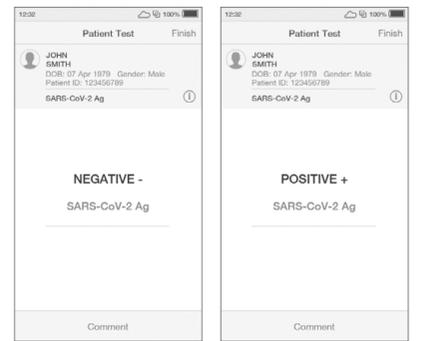

Fig 1: Negative result for SARS-CoV-2 Ag Fig 2: Positive result for SARS-CoV-2 Ag
4. The result will appear on the Instrument touchscreen within 12 minutes of applying the sample and starting the test. The results will be displayed as a positive or negative result SARS-CoV-2-Ag on the Instrument screen. (see Fig 1 and Fig 2).